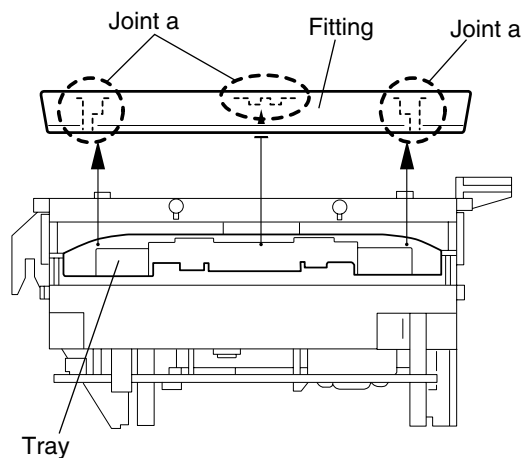

Fig.3
■ Removing the clamber base / tray (See Fig.3 ~ 5)